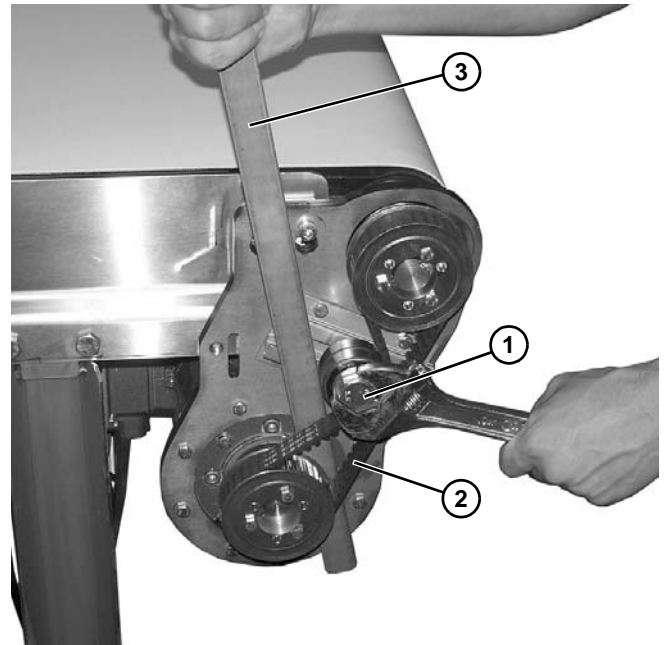

Figure 13
2. Loosen tensioner screw (Figure 13, item 1).
3. Tension timing belt (Figure 13, item 2) sufficiently to prevent belt skipping. A pry bar (Figure 13, item 3), may be used, as shown, to assist in belt tensioning.
4. Tighten tensioner screw (Figure 13, item 1) to secure position.